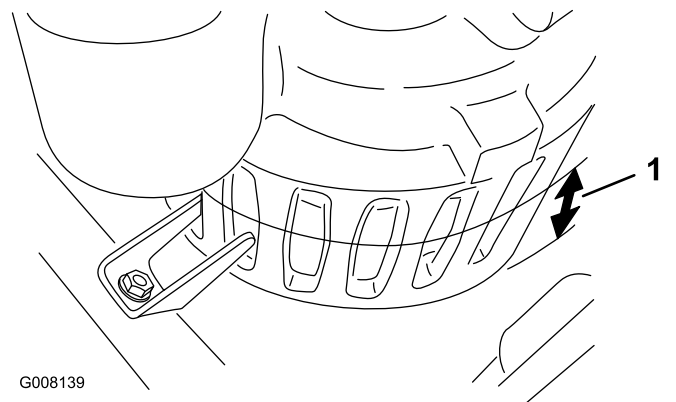

Figure 8
1. Measure the water depth in the lowest part of the bunker. If the water depth is less than 63.5 mm (2-1/2 inches) (halfway up the slots on the pump), dig a 30.5 cm x 30.5 cm x 5 to 7.6 cm (1 ft x 1 ft x 2 to 3 inches) deep hole to lower the pump into the hole (Figure 8).